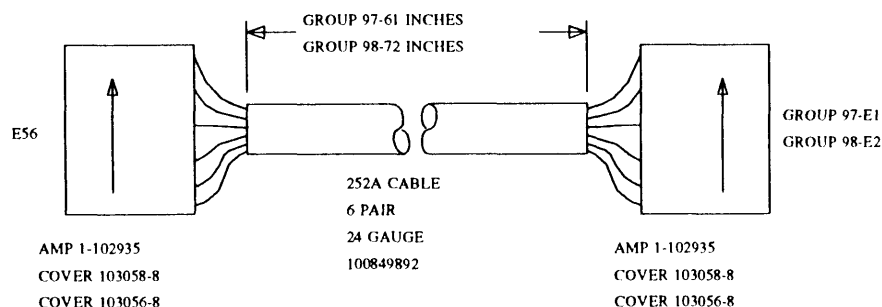

Figure 12-41. ED-1E434, Group 97 and 98 Cable
Install the ED-1E434, Group 97 cable(s) (figure 12-41) from **E56** on the module control (00) backplane to connector **E1** on the ZAEY1 circuit pack (ED-1E469, Group 2 Extended MAAP Bracket) for each remote module, as shown in table 12-20.
Install the ED-1E434, Group 98 cable(s) (figure 12-41) from **E56** on the module control (01) backplane to connector **E2** on the ZAEY1 circuit pack (ED-1E469, Group 2 Extended MAAP Bracket) for each remote module as shown in table 12-21. This cable is not required for an unduplicated system.